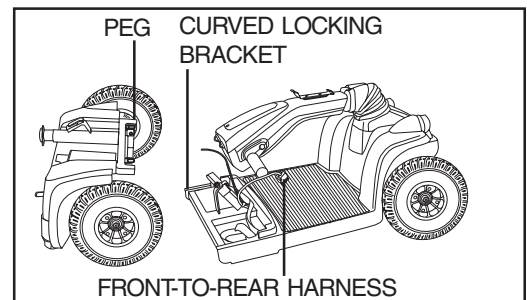

Figure 21. Frame Sections
1. Position the front and rear sections of your PMV as shown in figure 21.
2. Align the lower slots of the front section with the corresponding pegs on the front of the rear section. See figure 21.
**WARNING! Position the front-to-rear harness so it won't become pinched between the frame halves when pivoting the rear section forward. See figure 21.**